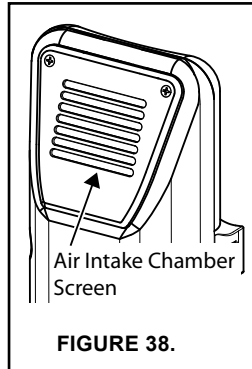

FIGURE 38.
1. At least twice annually inspect the air intake chamber screen (Figure 38) for any dust or debris that may have accumulated on the louvers. NOTE: If the water heater is located in an area that is subjected to lint and dirt, it may be necessary to check the air intake chamber screen more frequently.